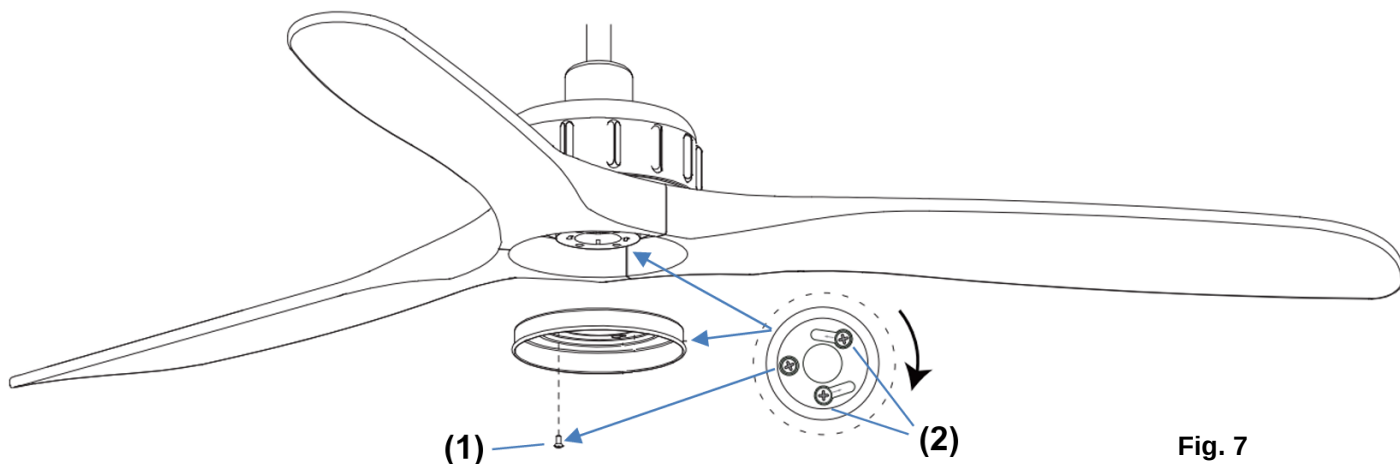

Fig. 7
INSTALLATION OF LIGHT KIT (Fig. 7)
1. Loosen the screw (1) from the fan bracket. (Fig. 7)
2. Align the two slot screws with the keyhole slots (2) of the light kit plate. (Fig. 7)
3. Turn the light kit plate counter clockwise until the slot screws are firmly at the end of the slots (2).
4. Secure screw (1) to the light kit plate. Tighten all three screws. Do not over-tighten.